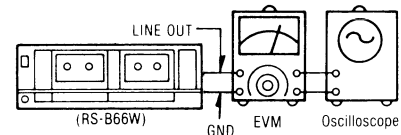

Fig. 17-1
- Make the connection as in Fig. 17-1.